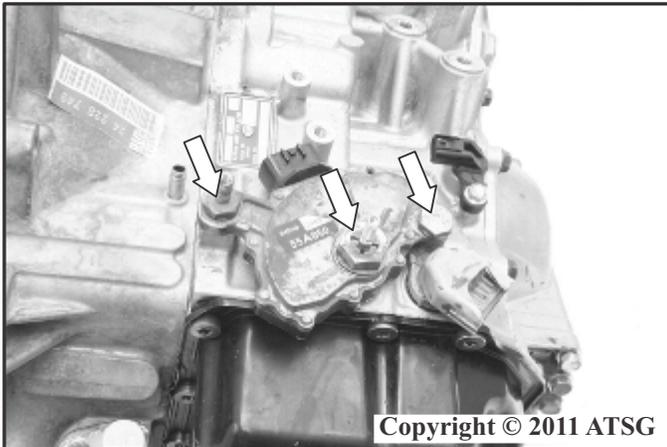

Figure 20
5. Remove the park/neutral switch lock nut, the locking washer and the flat washer as shown in Figure 20.
6. Remove the park/neutral switch bolt, the stud and the flat washers as shown in Figure 20.
7. Remove the park/neutral position switch by lifting straight up as shown in Figure 20.